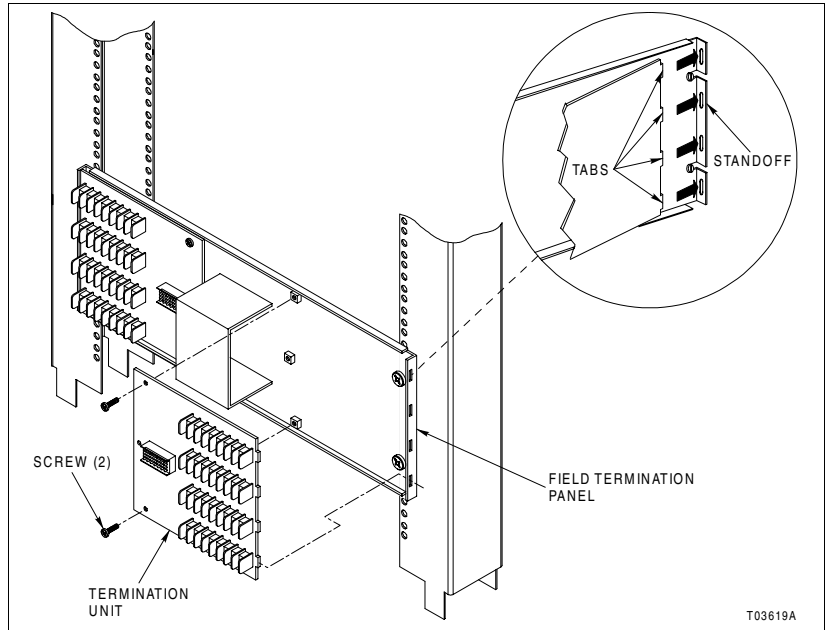

Figure 2-2. Termination Unit Installation
1. Insert the tabs of the circuit board into the proper slots of the termination panel standoff as shown in Figure 2-2 and slide the circuit board into position.